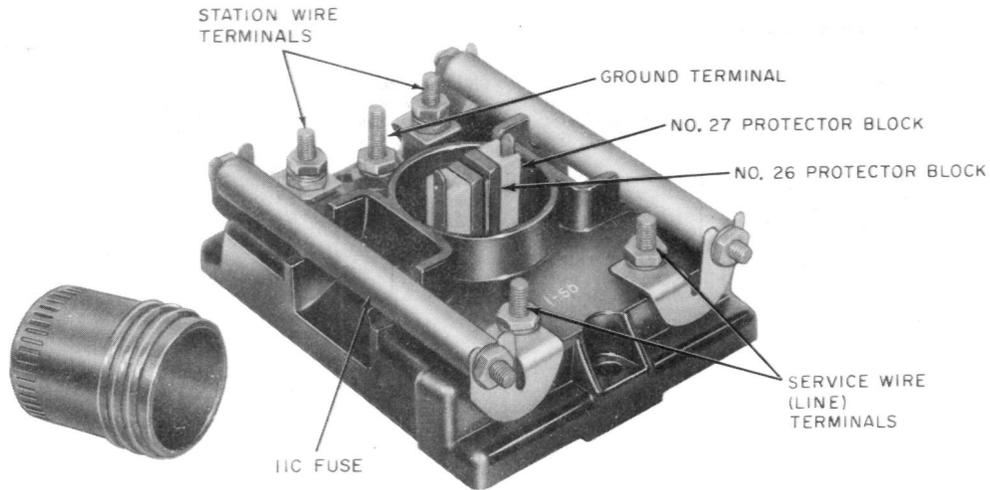

Fig. 44—98A (MD) Protector
5.07 At older installations, the 98A (MD) protector may still be in use. The 98A (MD) protector (Fig. 44) consists of a base of nonconductive material containing five binding posts, two 11C fuses, and a carbon block protector well arranged for the use of No. 26 and No. 27 protector blocks. For outside installations, the 98A (MD) protector is mounted in a 93C (MD) protector mounting.